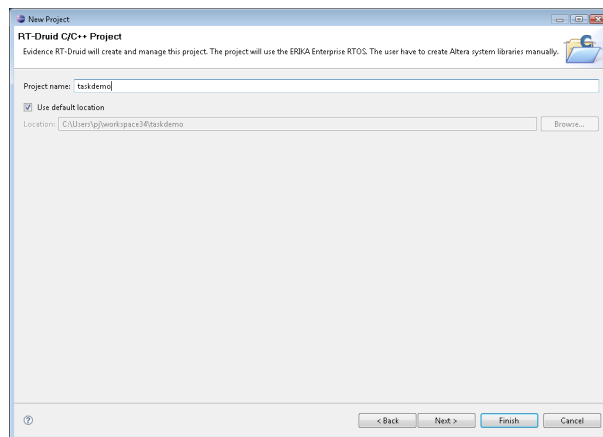

Figure 5.3: Type a name for the new project.
4. Insert the name of the new project. Please type `taskdemo` (you can choose other names of course). Please see Figure 5.3. Press the “Finish” button.